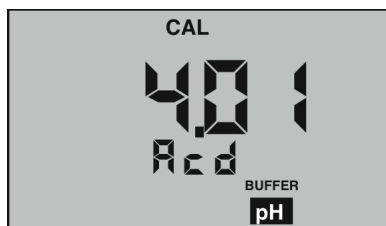

Figure 4
2. At this point the “**CAL**”, “**BUFFER**” and “**Acid**” or “**bAS**” annunciators will be displayed (see Figures 4 and 5, pg. 34).